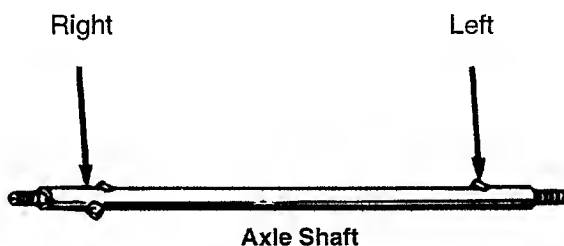

FIGURE 6
- The rear axle shaft has a right side and a left side. The right side has two tabs and the left side has one tab. See Figure 6.